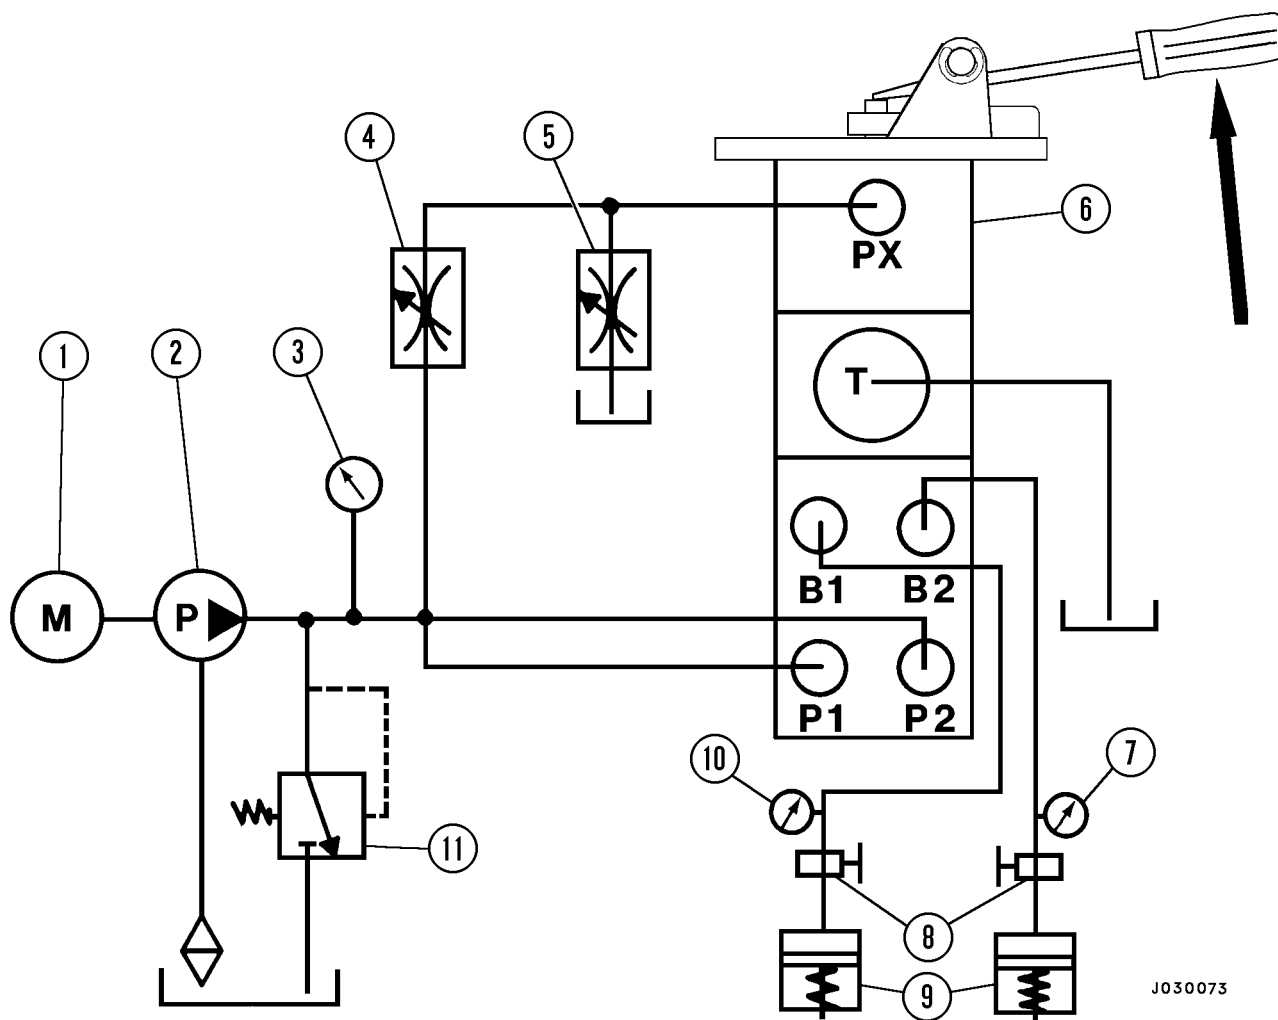

FIGURE 3-9. TEST BENCH SETUP
- Hydraulic test stand (Refer to Figure 3-9)